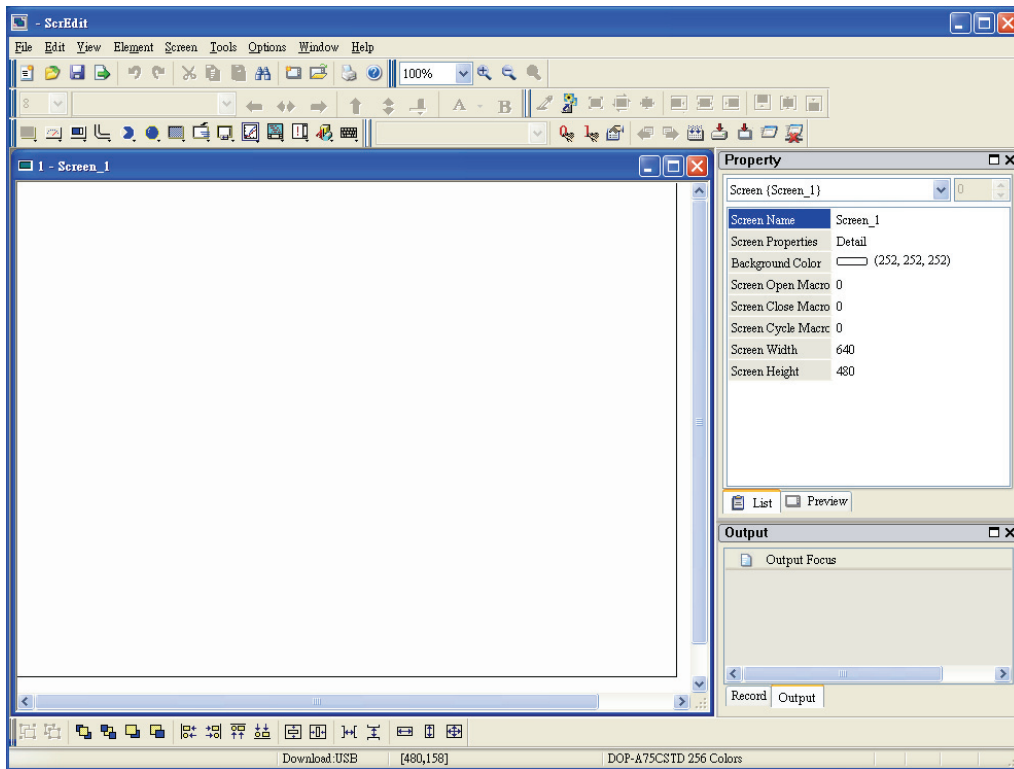

Fig. 2.2.5 New project screen of ScrEdit
3. Enter the Project Name, Screen Name, Screen No. and select connected HMI, controller or printer. Then, click **OK**. It can create a new project in ScrEdit as shown in the following. (Fig. 2.2.5)